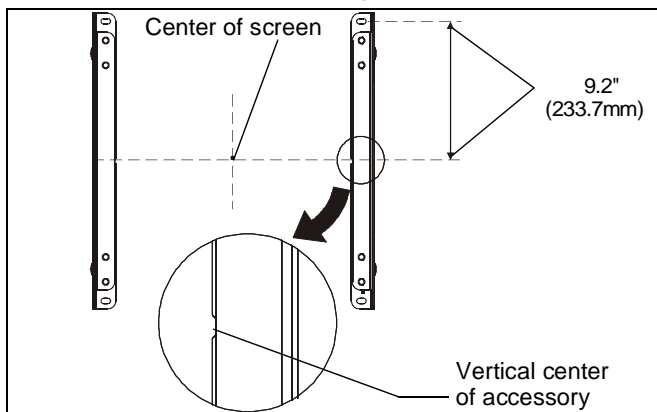

Figure 1
3. Line up the notches on accessory (A or B) with center of screen marking to determine vertical center. (See Figure 1)
2. Line up the notches on bracket (A and B) with center of screen marking to determine vertical center. (See Figure 1)
3. Measure up 9.2" (233.7mm) from the center point to mark location of the upper mounting slots. (See Figure 1)